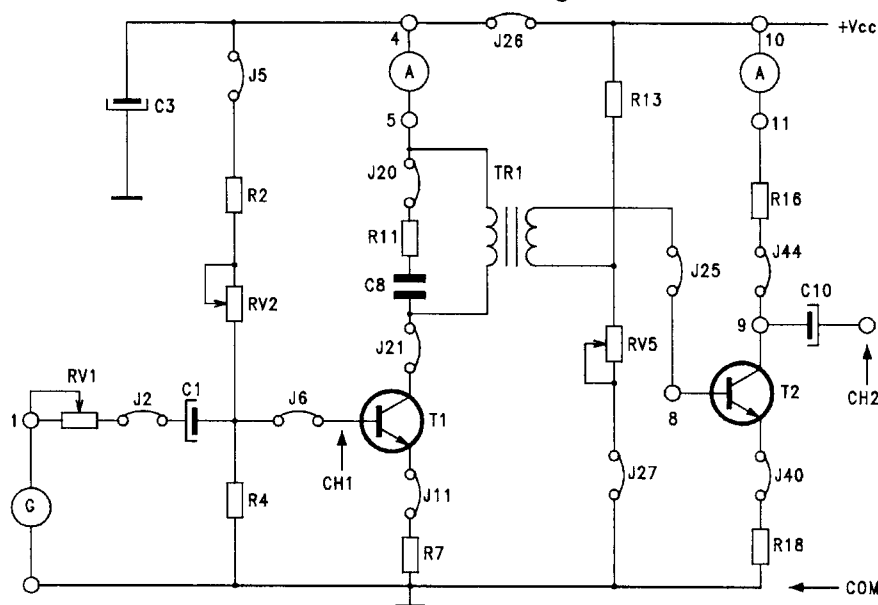

fig. B24.5
- Insert jumpers J2, J5, J6, J11, J20, J21, J25, J26, J27, J40, J44 and the instruments to Produce the circuit of figure B24.5.